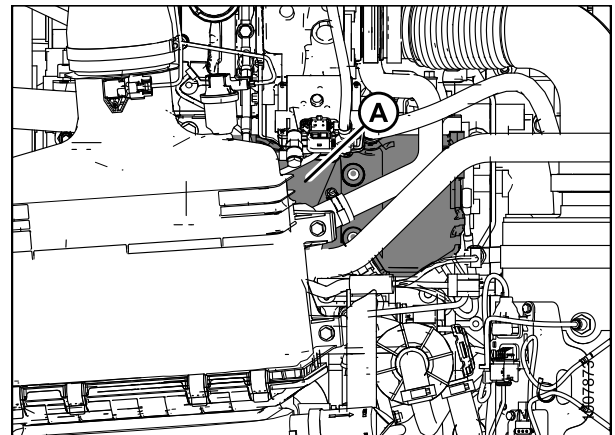

Figure 6.2: Engine Serial Number Location
- The engine serial number plate (A) is located on top of the engine cylinder head cover as shown in Figure 6.2: *Engine Serial Number Location, page 17*.